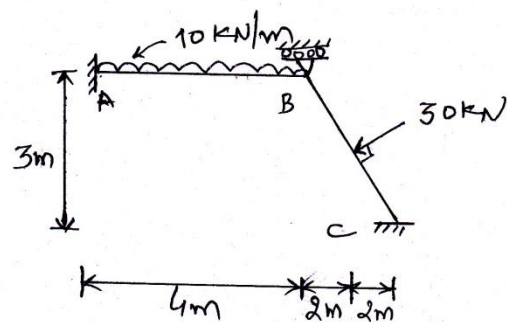

Figure 4
- Q.3** (a) Construct rearranged joint stiffness matrix for the plane frame shown in Figure 4. **07**
- (b) Calculate support reactions and free joint displacements for the plane frame shown in Figure 4. **07**